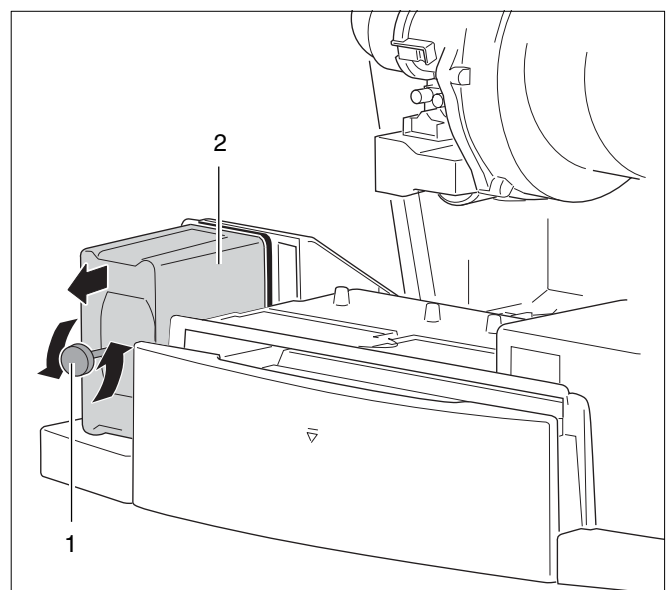

Fig. 138 Dismantling the UBA3
- Loosen the fastening screw of the UBA3 (see fig. 138, pos. 1).
- Pull the UBA3 forward in the direction indicated by the arrow (see fig. 138, pos. 2).